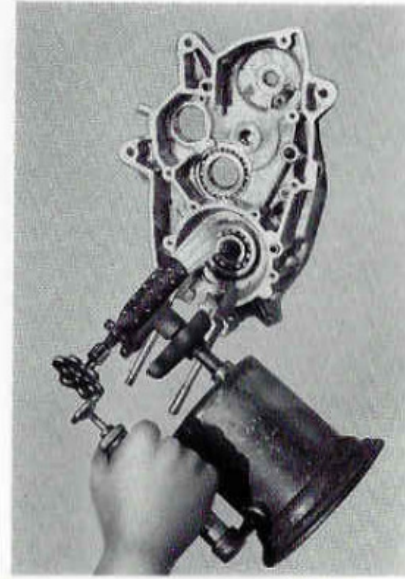

Fig. 8-2-30
31. Heat the crankcase round about the bearing holes with a burner until the **bearings** can be removed by hand as the bearings are shrink-fitted in the crankcase. (Fig. 8-2-30)